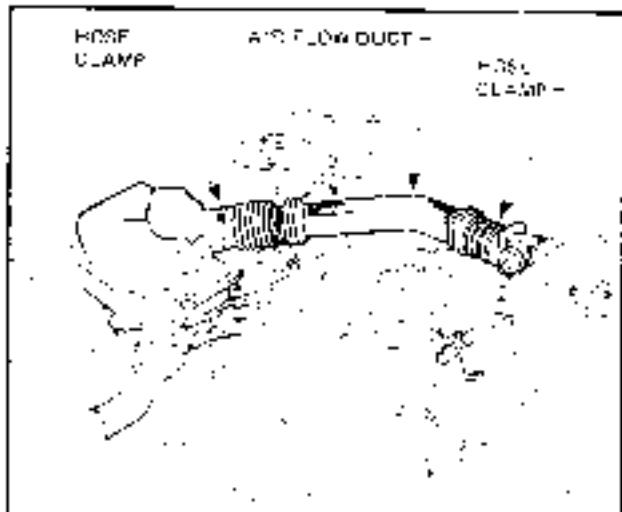

Figure 6C-63A
5. Unclip snap locks around upper air cleaner housing. Refer Fig. 6C-64.